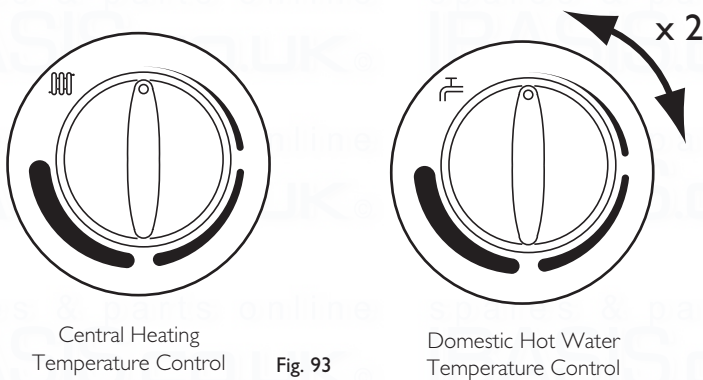

Fig. 93
3. Turn both temperature control knobs fully anticlockwise, then quickly turn the DHW temperature knob 1/4 clockwise twice and back fully anticlockwise (Fig. 93).